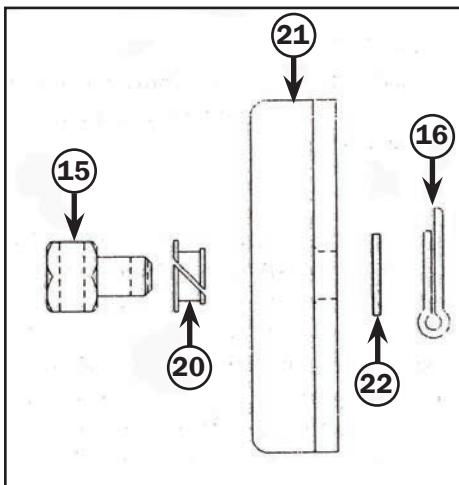
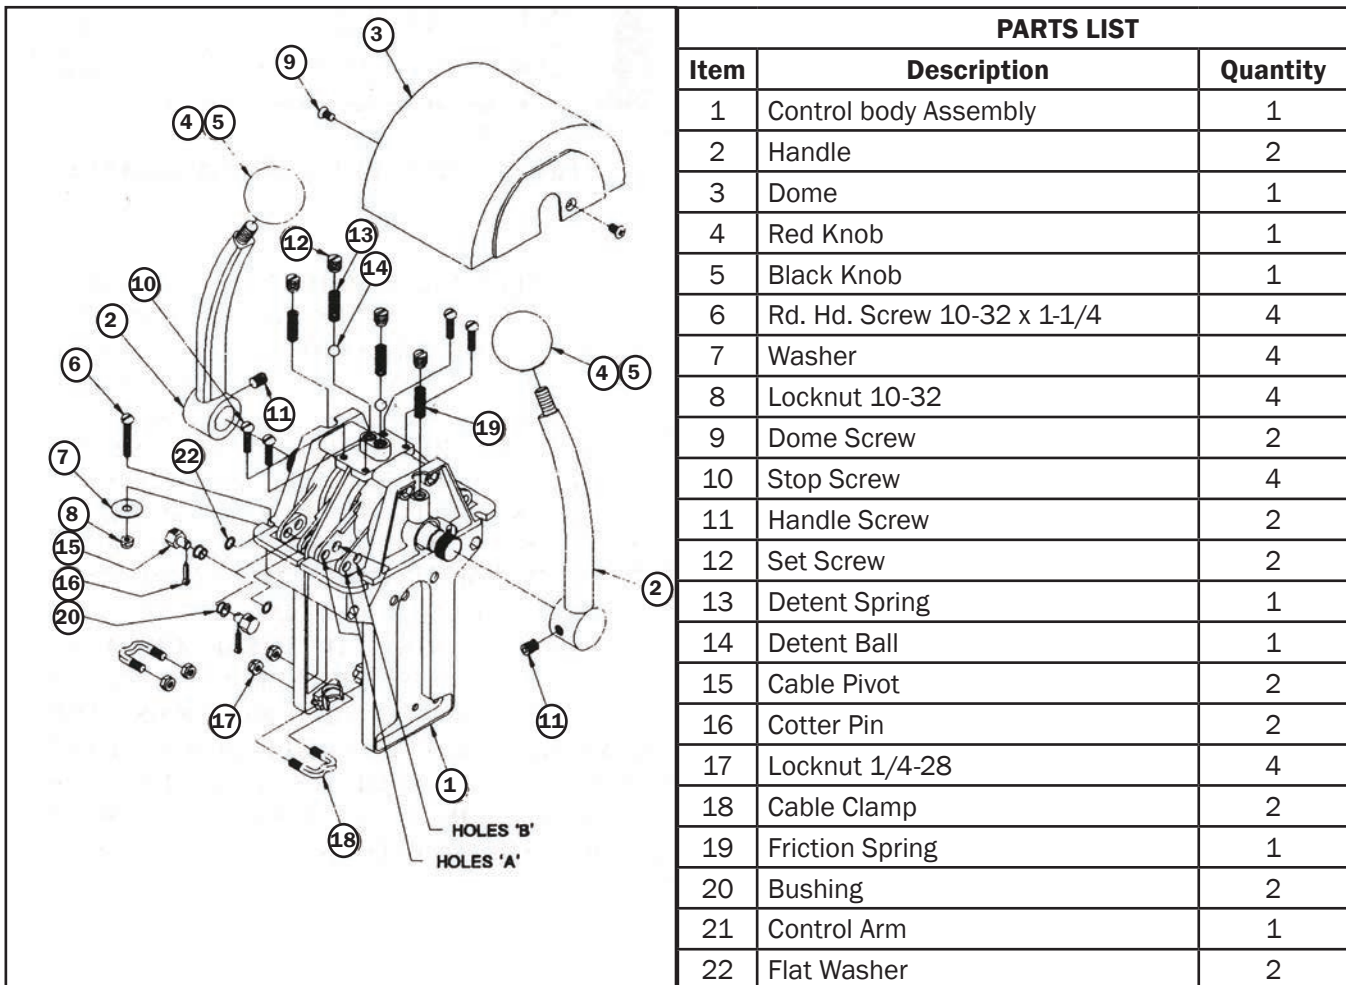

Figure 1.
Figure 2.
STEP 3. Determine if the cables should be push or pull to open the throttle and whether push or pull to select forward gear. Cables attach in hole marked "A" in Figure 2 to the front of the control arms for push operation or to the rear of the control arms for pull operation. After installation, tighten cable jamb nuts against pivots.
STEP 4. Place the cables in the cable retainers and secure in place with "U" bolts (18) and nuts (17) ensuring that the "U" bolt is fitted into the proper groove in the cable.
STEP 5. Each handle operates two levers. The outer lever, colored black, provides the anti-creepback feature and is used for throttle only. The inner lever, colored yellow, is direct drive and is used for gearshift. Insert bushing (item 20) into hole marked "A" of the appropriate lever (item 21), ensuring that the larger flange is on the same side as the chamfer on the hole. Slide the small end of the pivot (item 15) through the bushing, which is through the hole in the arm. Slide the flat washer (item 22) over the small end of the pivot. Secure assembly by inserting cotter pin (item 16) through the hole in the small end of the pivot and spreading the cotter pin legs. Refer to Figure 1.
STEP 6. Install handles onto shafts. Check that the control moves freely from full forward to full reverse positions and ensure that the handle travel is equal in both forward and reverse directions. Secure in place using screw (11). If handle friction is desired, assemble friction spring (19) and set screw (12).
STEP 7. Fasten the control in position in the cut-out, using screws (6), washers (7), and nuts (8). Refer to Figure 2.
STEP 9. For the shift handle, install the shift detent ball (14), spring (13), and screw (12). Adjust the screw to give a comfortable feel to the shift handle. Start with the screw flush with the surface of the control.
Install both controls as described in steps 1 through 7, including cables from upper control to lower control. DO NOT connect cables from upper control to lower control at this time. Connect cables to engine as described in instructions for single station installations and make all necessary adjustments. Connect cables from upper control to holes marked "B", ON YELLOW ARM, in Figure 2. Make any adjustments at this point. DO NOT ADJUST LOWER CONTROL TO SUIT UPPER CONTROL.